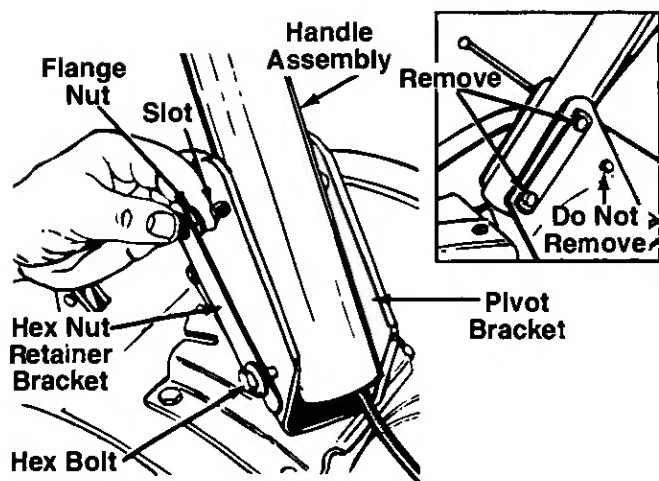

FIGURE 2.
1. Remove the hardware from the handle pivot bracket as shown in figure 2, inset.
3. Place handle assembly in position in the handle pivot bracket. Line up the holes in handle assembly with the holes (and slots) in the pivot bracket. See figure 2.
5. Place flange nut between top of hex nut retainer bracket and pivot bracket. See figure 2.